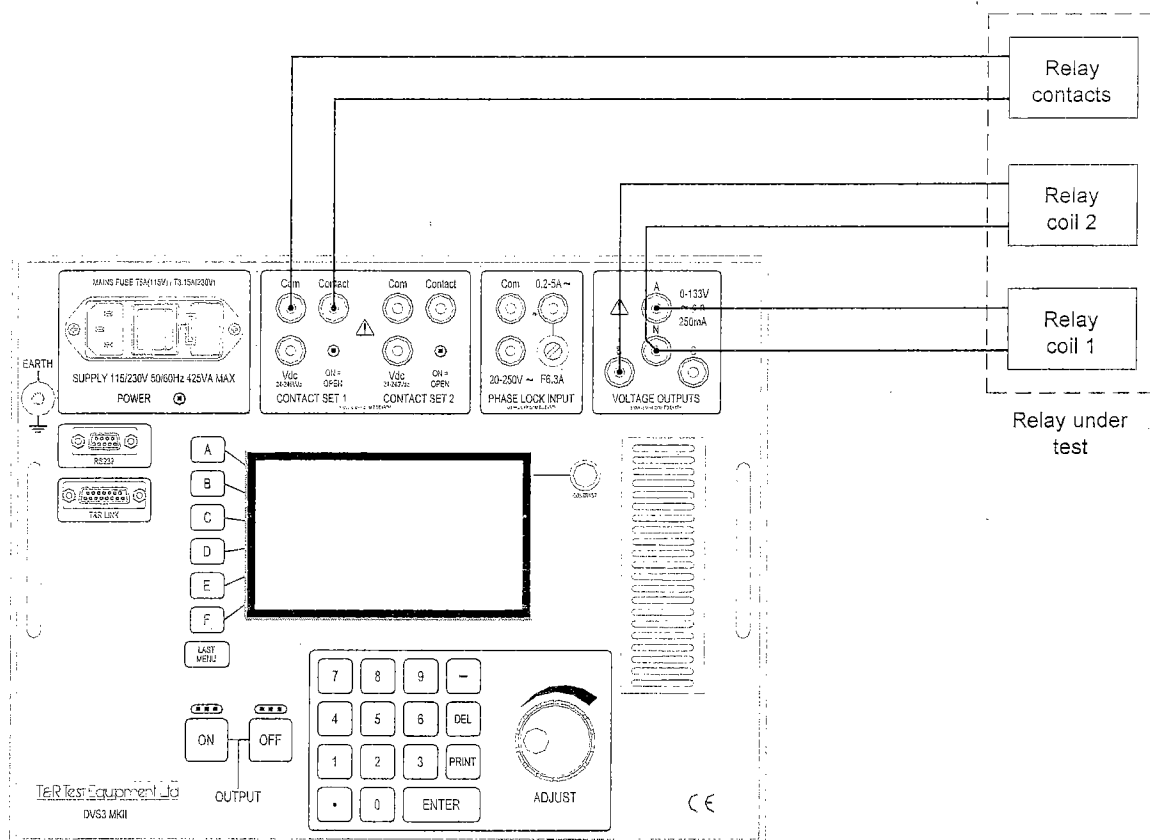

Figure 3.8 Connections for check synchronising relays
- Connect an auxiliary supply to the relay if required (not shown in figure 3.8).